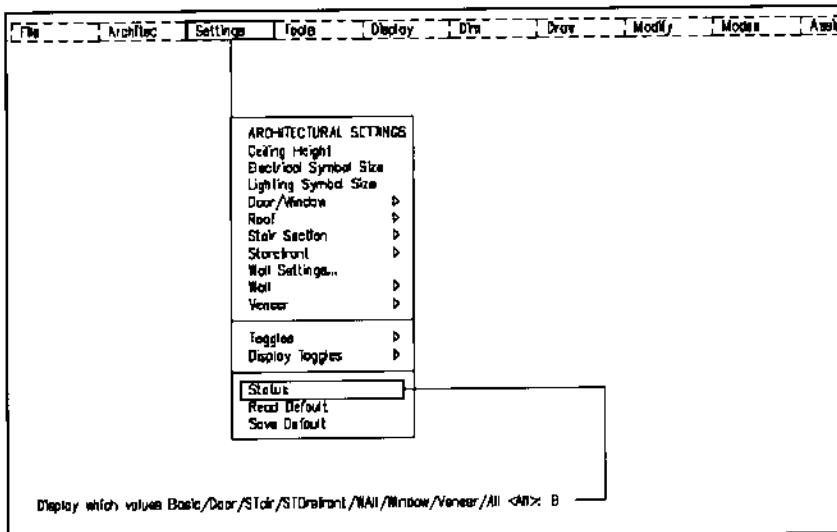

Figure 2.
2. Select the Basic status display to verify the current settings for Attribute dialog box and Attribute prompt as shown in Figure 2.